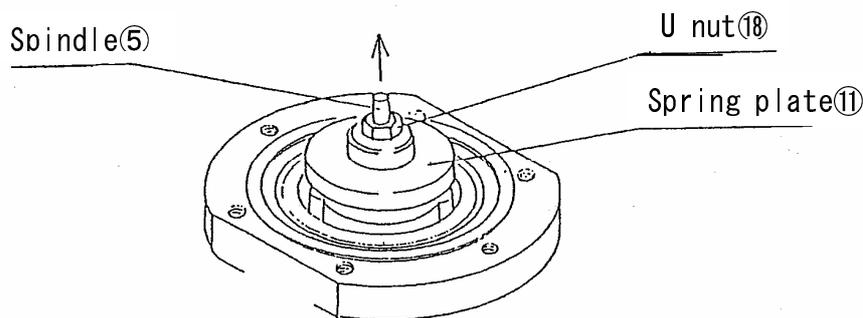
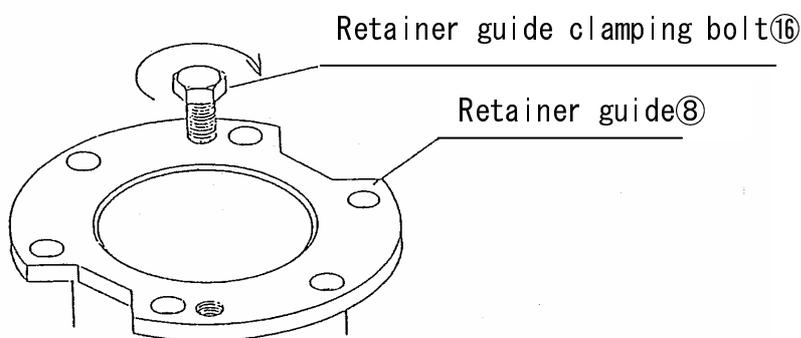

Fig. 13
Fig. 14
Remove it by the bellow method (Fig. 13, Fig. 14) when it is difficult to remove the retainer guide⑧.
To remove the retainer guide⑧ easily, install the spring plate⑪ and U nut⑱ to spindle⑤ again and pull the spring plate⑪. (Fig. 13)
To remove the retainer guide⑧ easily, screw the retainer guide clamping bolt⑲ to retainer guide⑧ and pull it. (Fig. 14)